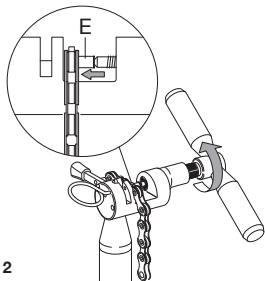

Fig.12
- While exerting a uniform force, screw in the tool (**Fig. 12**) so that the bushing **ULTRA-LINK 5-CN-SR700** (E) has completely entered the thickness of the chain.